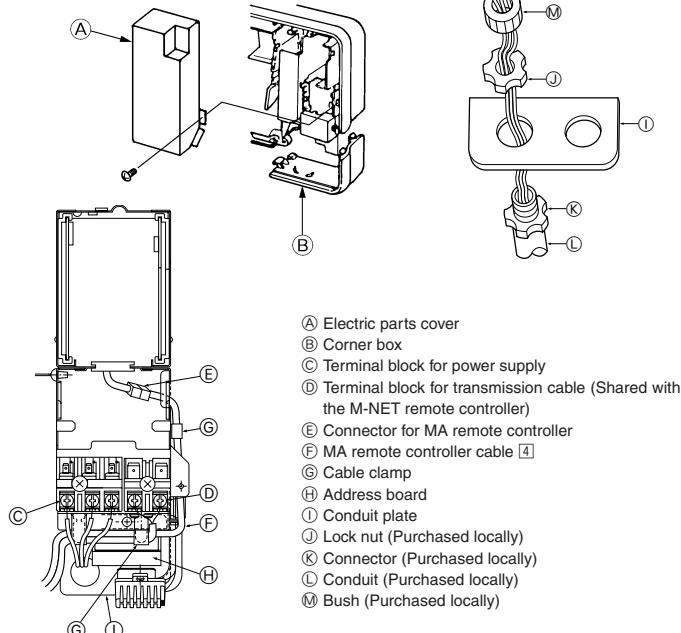

Fig. 6-1
■ PKFY-P06/P08NAMU-E (Fig. 6-1)
3. Remove the tapping screw (1), and then remove the electric parts cover.